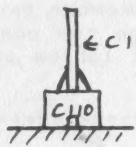

Fig. 2C
3. Insert the C112 in between two rows of C110's leads with the key slot positions lined up with each other. See Figures 2C and 2D.